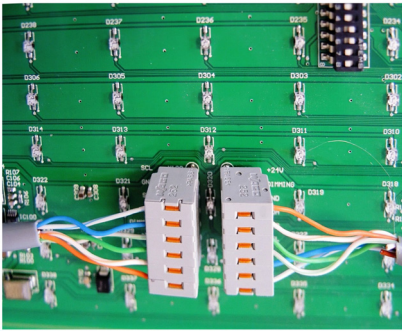

Fig. 10: Zonal Display Front Cover Rear View - WAGO Terminal Blocks Plugged into PCB 6-Pin
- 4 Plug the terminal block into the zonal display front cover rear PCB 6-pin. Ensure that there is no missed connection. Refer to Fig. 10.
- 3 Plug the other end of the WAGO terminal block into the second zonal display front cover rear PCB 6-pin to create a ‘daisy-chain’ connection. Refer to Fig. 10.